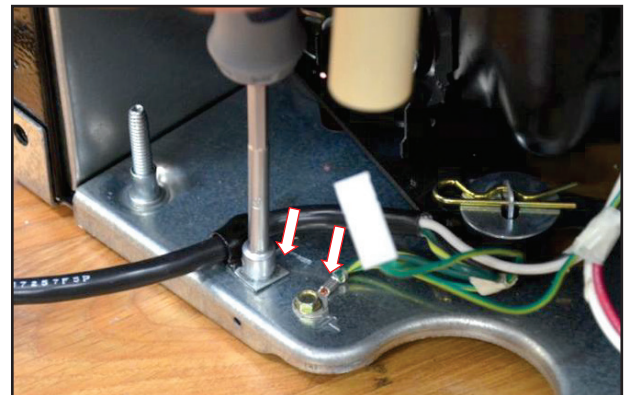

FIGURE 33
3. Remove line cord retainer and chassis ground wire. See *Figure 33*.